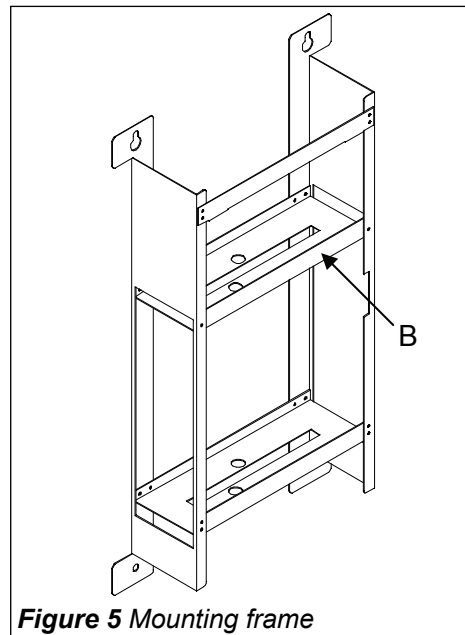

Figure 5 Mounting frame
Option Two – Mounting frame (B) (Refer to Figure 5)
1. Use the screws and plugs supplied to fasten the mounting frame (B) vertically to the wall.